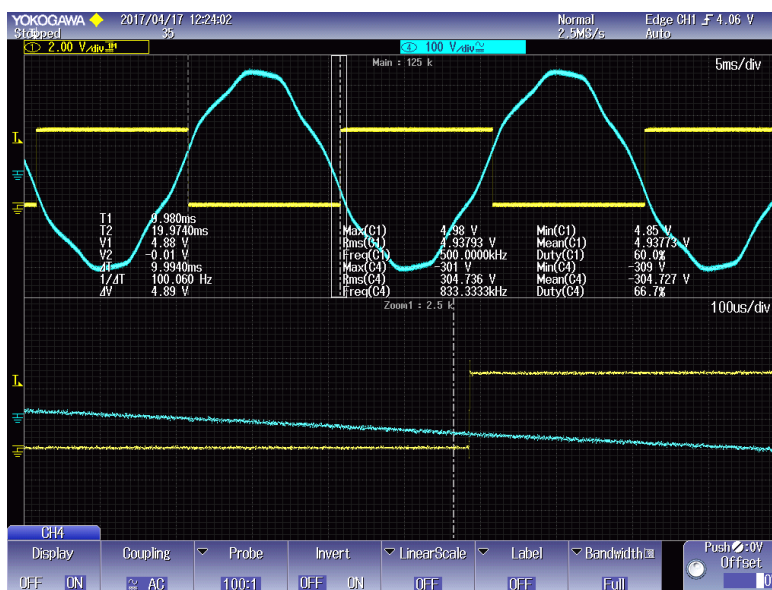

Figure 17: Input voltage (V_{in}) and (PWM1A) waveforms at $V_{in} = 100$ VAC
3. Insert the fly back board into the connector (J1 and J3) of the power board. The connector of the fly back board should face the power board as shown in Figure 17. The flyback card should be on the top of the marking of "AUX power supply".